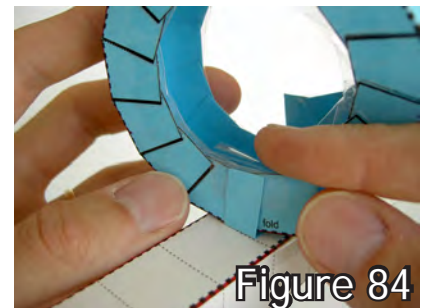

Figure 84
6. Hold the loop in position and tape the brackets to the loop. (fig. 84) Make sure that you tape both arms of both brackets to the loop.